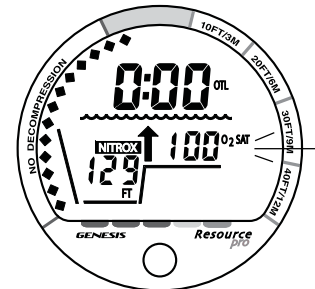

Fig. 56 - O₂ Alarm
When O₂SAT reaches 100 (%), O₂ Dive Time Remaining (OTL) becomes zero (0:00) and the O₂SAT value (100) and Up Arrow icons will flash (Fig. 56) until O₂SAT decreases below 100% at which time O₂ Dive Time Remaining (OTL) will increase above zero (0:00).